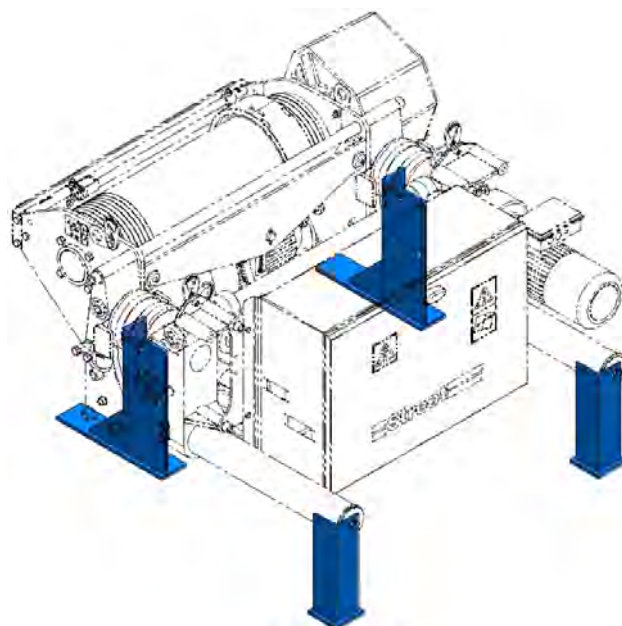

Figure 18 – Low Headroom Hoist Transportation Feet
- Remove the four blue transportation feet from the hoist legs (Figure 18).